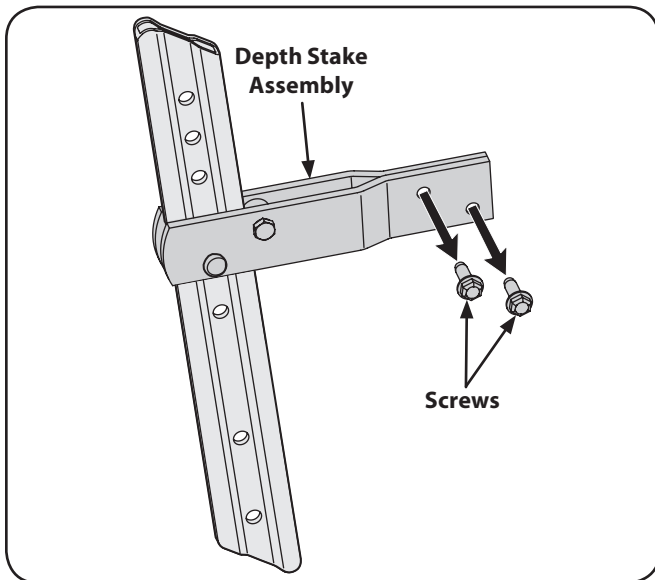

Figure 1-5
- Remove the two screws from the depth stake assembly. See Figure 1-5.